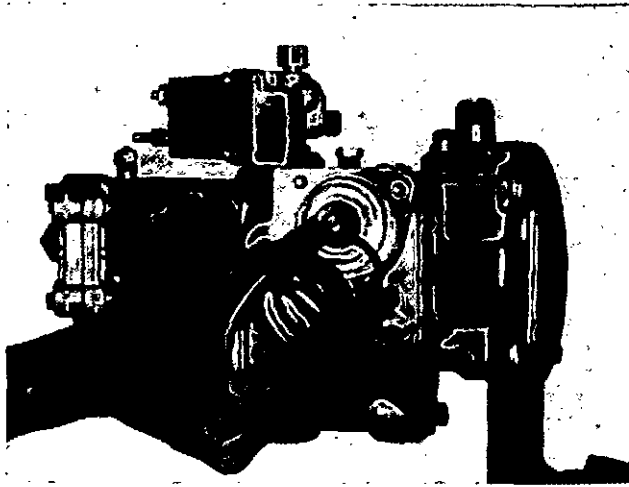

Fig. 1-9, (F5303). Remove the AFC bellows spring and washer.
4. Remove the AFC bellows spring and the steel washer between the spring and the fuel pump housing, Fig. 1-9.